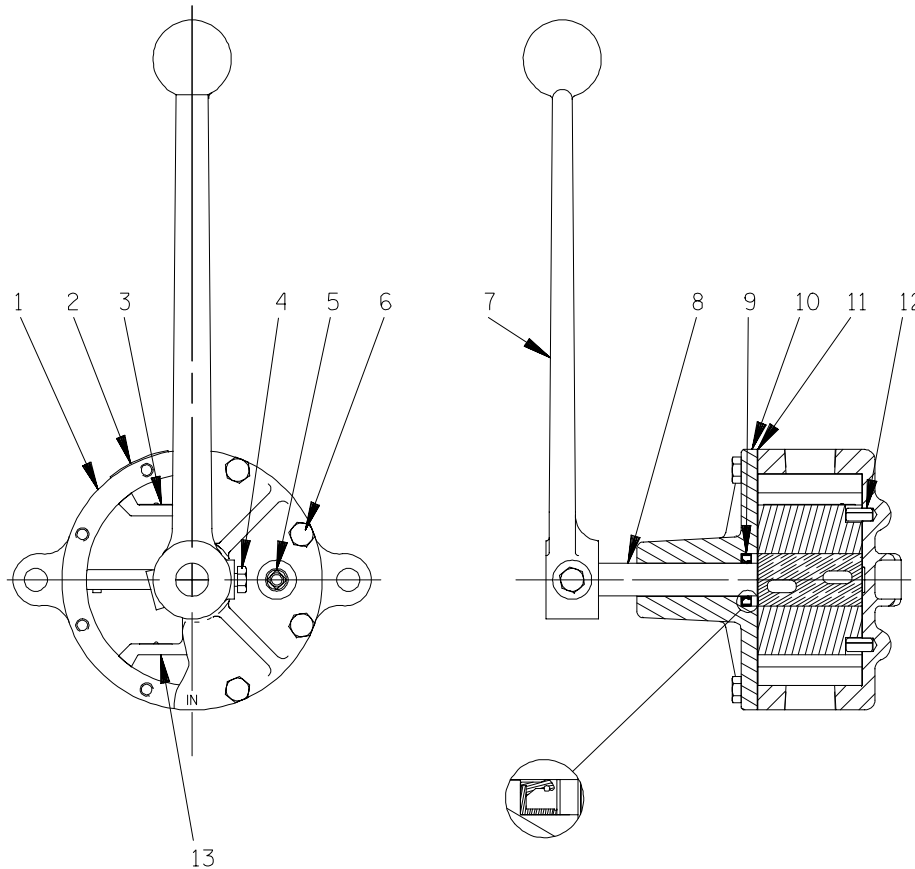

Figure 1. Pump Model HO3/4A4-36DK
This pump requires little service due to its rugged, minimum-maintenance design. However, if it becomes necessary to inspect or replace the wearing parts, follow these instructions which are keyed to the sectional view (see Figure 1) and the accompanying parts list.
Lightly lubricate the oil seal (9), and use an arbor (or hydraulic) press and a suitable sized dowel to install it in the lid (10) with the lip positioned as shown in Figure 1.